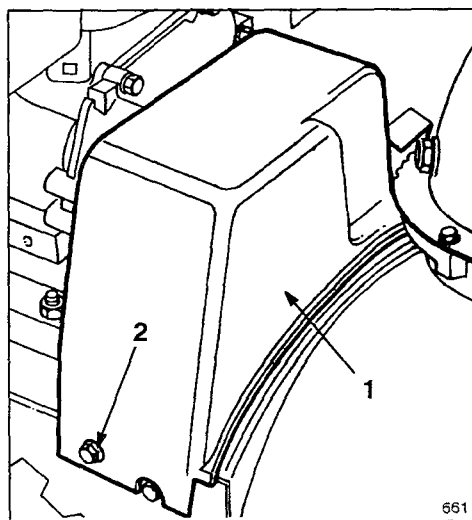

Figure 23
When auger/impeller drive belt (Fig. 23) becomes worn, stretched,
2. Remove (2) screws holding belt cover in place and set cover aside (Fig. 23).
3. Remove (2) screws holding belt cover in place and set cover aside (Fig. 23).